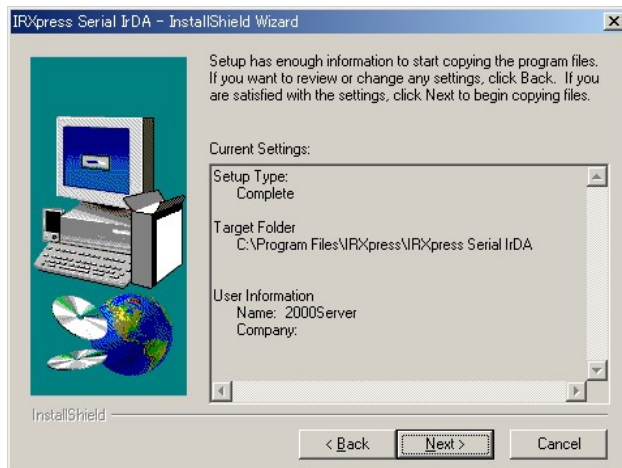

Figure 5.23
4. If all detail appeared in Figure 5.23 is okay, click **Next >** button.